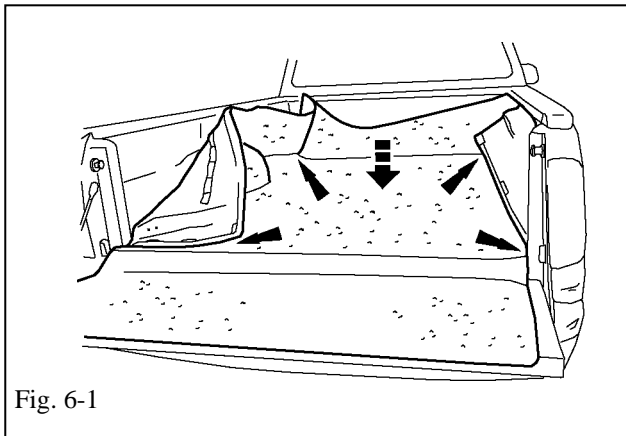

Fig. 6-1
- Position the BedRug - front to rear and left to right by aligning all edges and tucking corners into place. (Fig 6-1)